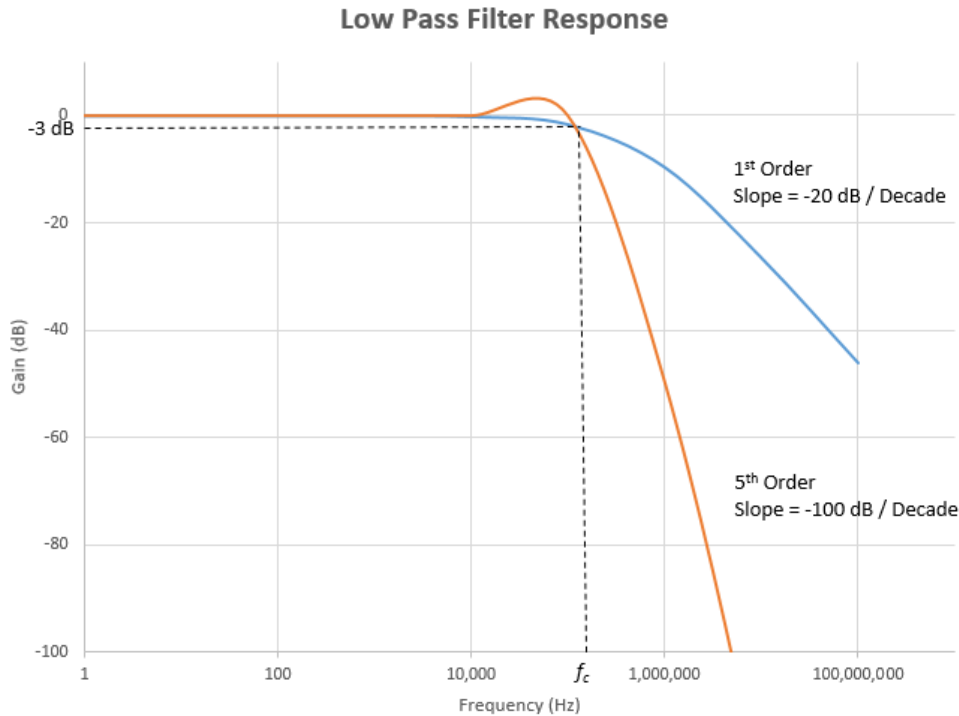
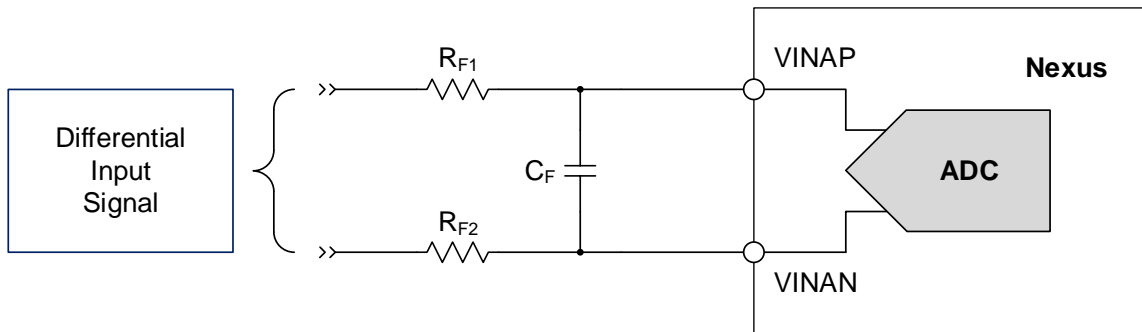

Figure 4.2. Low Pass Filter Response
Figure 4.3. Differential ADC Input Filter
When an ADC is used to sample real time data, it is important to limit the frequency content of the input signal in order to maintain fidelity of the signal that is being processed. Typically, a low-pass filter is used with corner frequency (f_c) set to the Nyquist frequency which is half the sampling frequency (f_s). Signal processing applications often utilize a multiple order low-pass filter (such as a fifth order or more) to effectively block frequency content above f_c . The discussion of such filters is beyond the scope of this technical note. Instead, a single-order resistor-capacitor (RC) low-pass filter is discussed. RC low-pass filters attenuate frequency content above f_c at the rate of -20 dB/decade as shown in Figure 4.2. A differential RC filter is shown in Figure 4.3 for one of the ADCs supported by Nexus devices. The corner frequency for the RC filter is given by Equation 3.